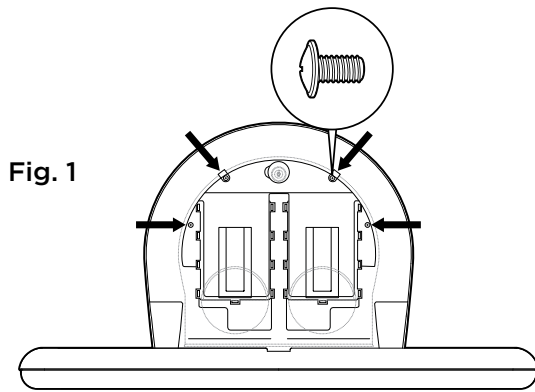

Fig. 1
- Unlock the plastic liner dispenser with the included key and remove the four screws securing the liner dispenser to the frame. **Fig. 1** Remove liner dispenser from wall.